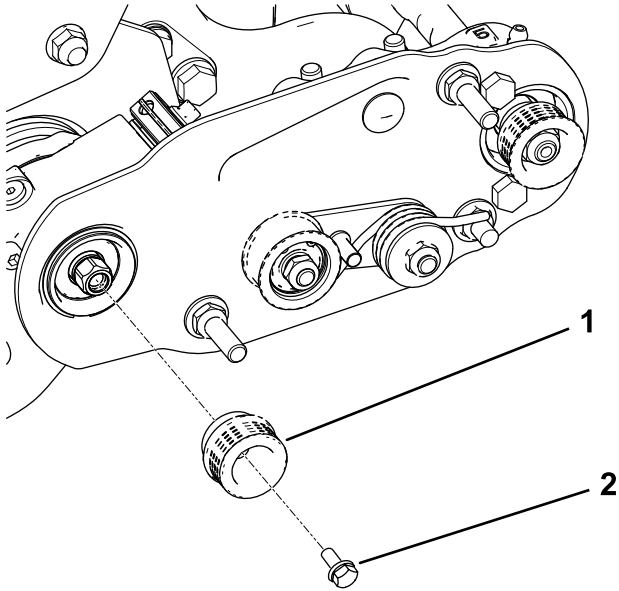

Figure 13
2. Install the drive pulley onto the groomer shaft (Figure 13).
3. Apply 242 Loctite (blue) to the flange-head bolt and use the bolt to secure the pulley to the driveshaft; refer to Figure 13.